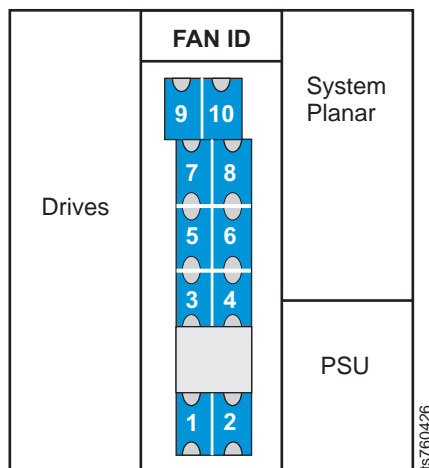

Figure 66. Cooling fan layout
- c. Using Figure 66 for reference, locate the defective cooling fan.